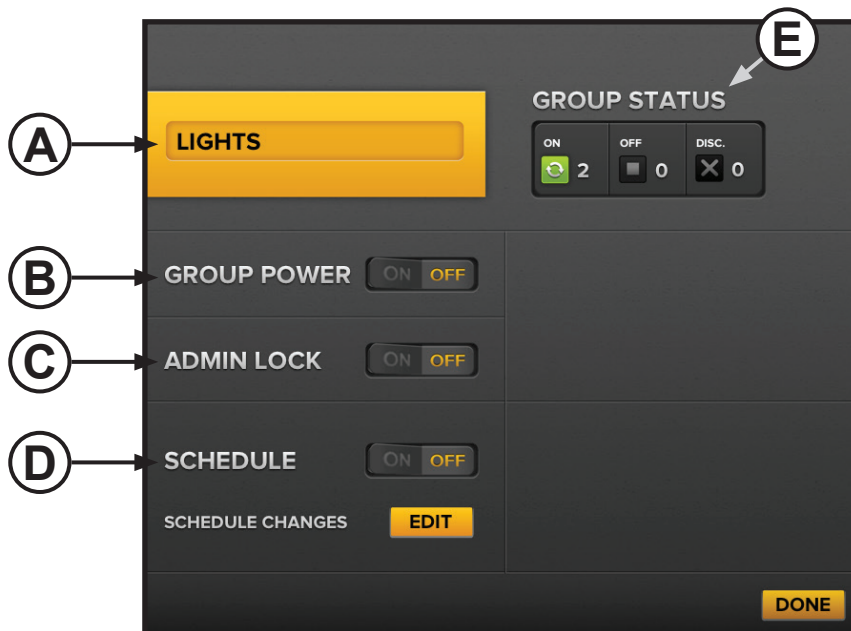

Figure 3—Light group details page
2. Locate the light group you want to work with, and then touch the **Detail Page** button for the group. The group details page appears (Figure 3).
3. Adjust the settings as necessary, and then touch **Done**. See Figure 3 below and the following page for details.